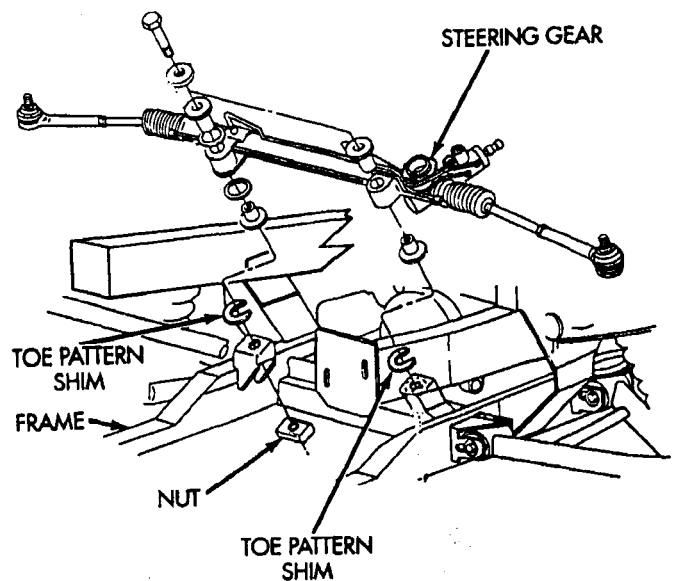

Figure 5
CAUTION: There are selective toe pattern shims located between the steering gear mounting bushings and the steering gear crossmember (Figure 5). Using a grease pencil, mark the shims (right or left side) so that they can be reinstalled into their original position.
NOTE: The right side steering gear mounting bolt has a tapping plate nut located on the bottom side of the steering gear crossmember (Figure 5). The tapping plate nut must be saved.
20. Lift the left side of the steering gear slightly and place the left side selective toe pattern shims under the steering gear mounting bushing (Figure 5). Then install the mounting bolt. Do not tighten the mounting bolt at this time.
21. Lift the right side of the steering gear slightly and place the right side selective toe pattern shims under the steering gear mounting bushing (Figure 5). Then install the mounting bolt and tapping plate nut.